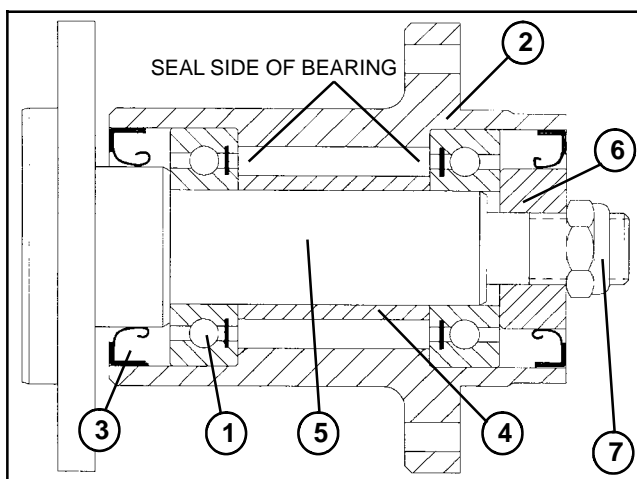

Figure 25
Note: The seal side of each bearing should face the inside of the drum hub (Fig. 25).
1. Press bearing into the drum hub. Pack bearing with grease. Fill space outside of bearing with grease. Press spring lip seal into the hub with its flat side out (Fig. 25).
2. Insert seal spacer into drum hub. Press bearing into the hub and pack with grease. Fill space outside of the bearing with grease. Press second spring lip seal into the hub with its flat side out (Fig. 25).
3. Apply grease to the shaft of the drum spindle. Carefully slide drum spindle into drum hub bearings. Secure lock nut and seal spacer to the drum spindle (Fig. 25).